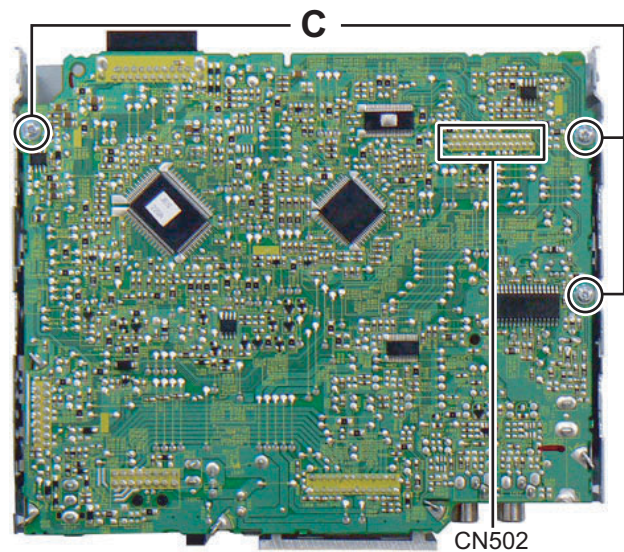

Fig.5
- (3) Remove the 3 screws **C** attaching the Main board. (See Fig.5)
- (4) Disconnect the board to board connector CN502 connecting the Main board and the CD mechanism. (See Fig.5)